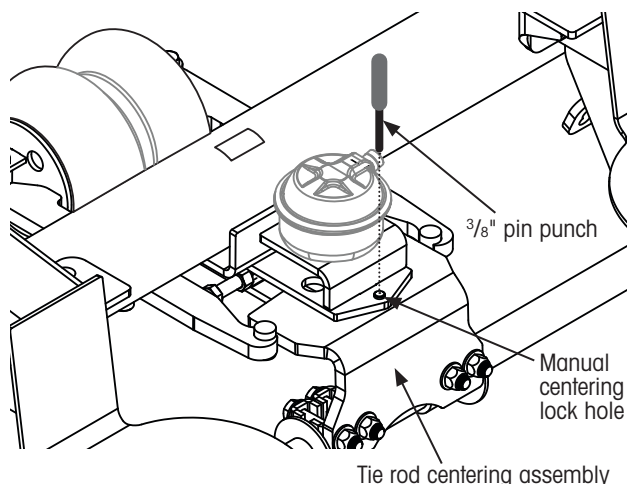

Figure 30: Locking wheels to straight position
3. **Center wheels and insert** a $\frac{3}{8}$ -inch pin punch (or equivalent) into manual centering lock holes, as shown in Figure 30.